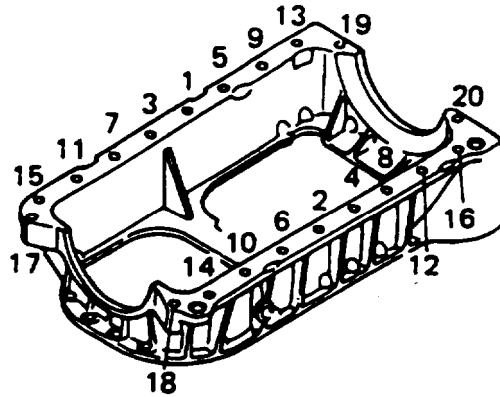

FIGURE 3-99. Crankcase Fastener Tightening Sequence
- c. Install two shims (7) and two screws (1) securing crankcase to flywheel housing.
- d. Tighten all fasteners a little at a time and in sequence shown in FIGURE 3-99 to 168 in-lbs (19.0 Nm).